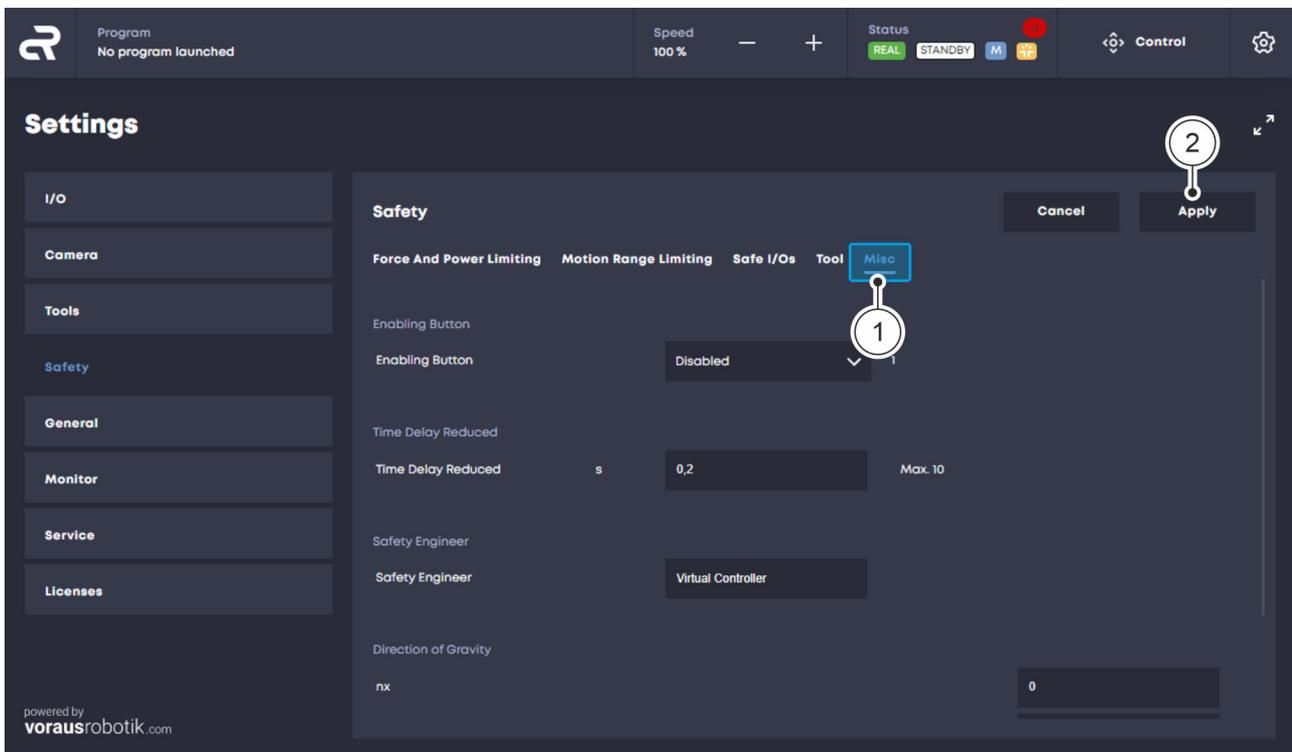

Fig. 37 Editing the enabling function
01. In the 'Safety' menu, select the 'Misc' tab Fig. 37/①.
02. Click the 'Apply' button Fig. 37/②.